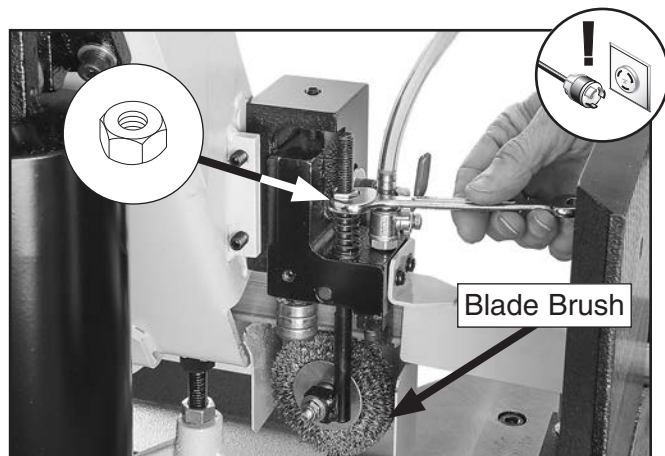

Figure 80. Adjusting brush adjustment hex nut.
2. Using hex nut shown in **Figure 80**, adjust blade brush so blade extends $\frac{1}{8}$ " into bristles of brush.